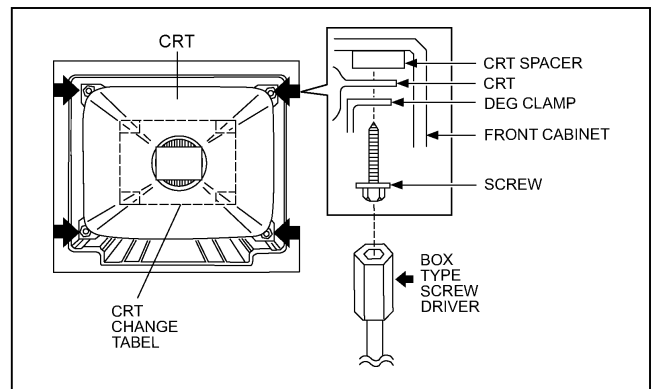

Fig. 5
- 2. While keeping the surface of CRT down, mount the TV set on the CRT change table balanced well as shown in Fig.5.
- 3. Remove 4 screws marked by arrows with a box type screw driver as shown in Fig.5.